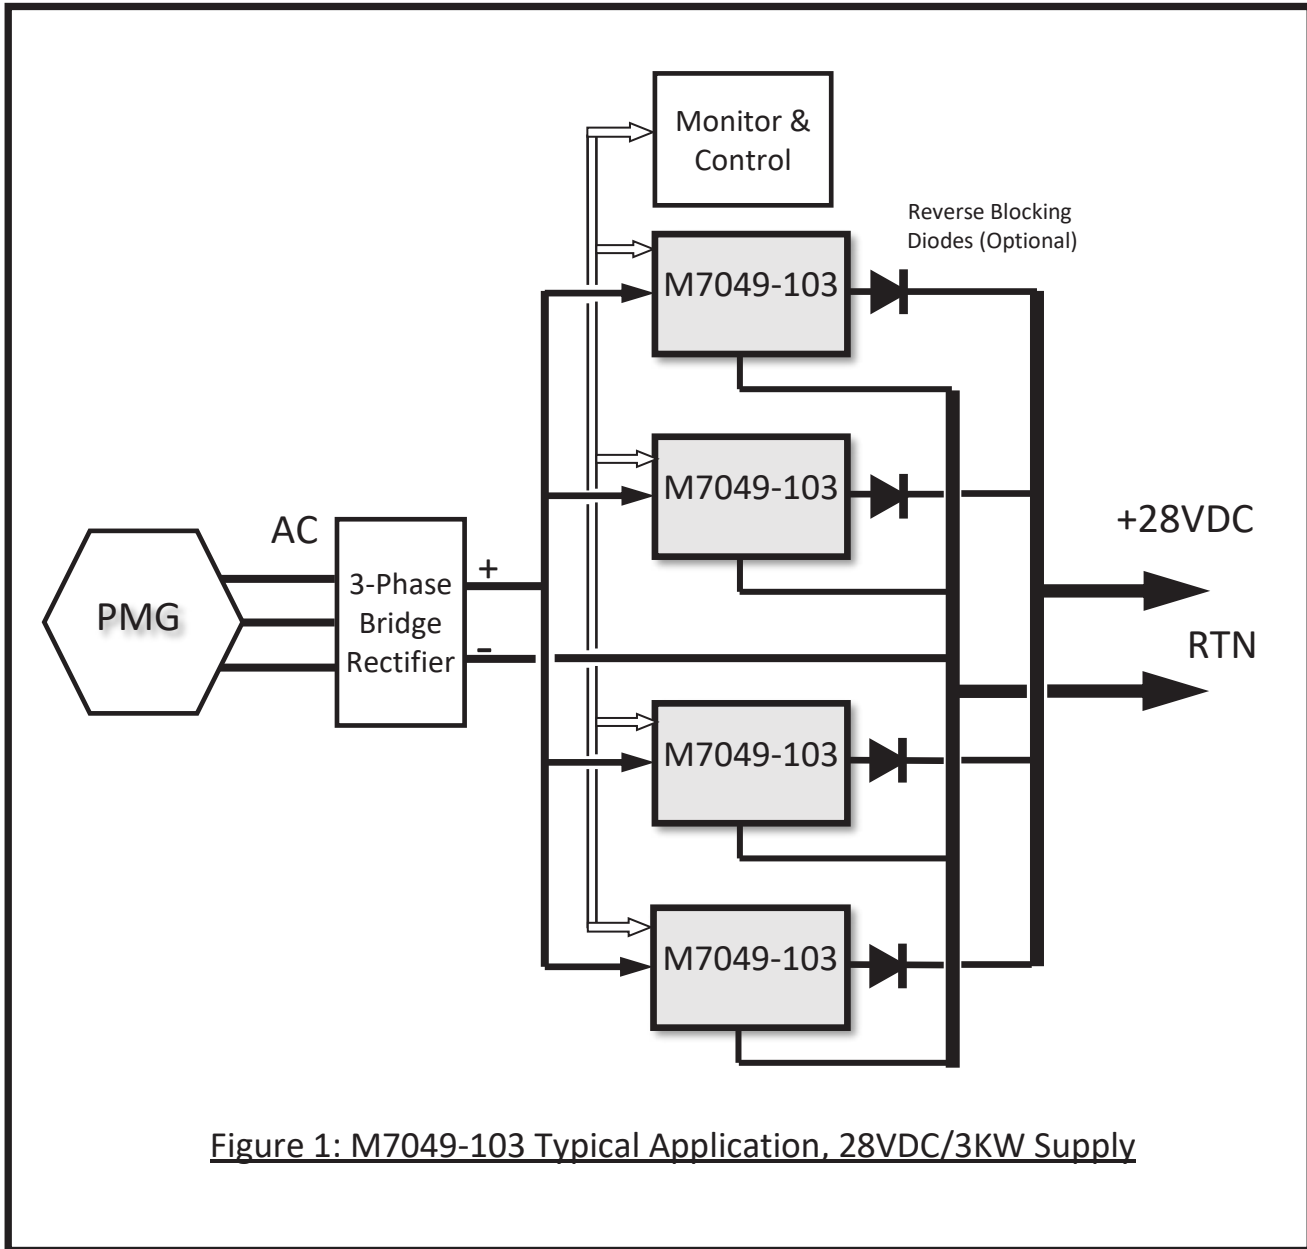

Figure 1: M7049-103 Typical Application, 28VDC/3KW Supply
M7049-103 is a 750W high efficiency switching regulator, that when fed from the rectified output of a 3-phase Permanent Magnet Generator (PMG), will provides a well-regulated, filtered, and protected 28VDC Output. The M7049-103 is designed for parallel current-sharing operation, allowing the user to parallel up to eight M7049-103 units and supports up to 6KW (7.2KW for 30 sec.). For typical application see Figure 1.
When several M7049 Modules are used in parallel (Figure 1), the following considerations should apply:
- If N+1 redundant configuration is desired (increasing the operational reliability by eliminating single-point failures), or if more than 4 (four) Modules are paralleled, an external reverse blocking diode should be used in series with the +28VDC output of each of the paralleled Modules (see Figure 1). The diodes will prevent a failed Module from overloading the entire 28VDC output. The diode should be able to tolerate the full output current of the Module, at the expected operating temperature.